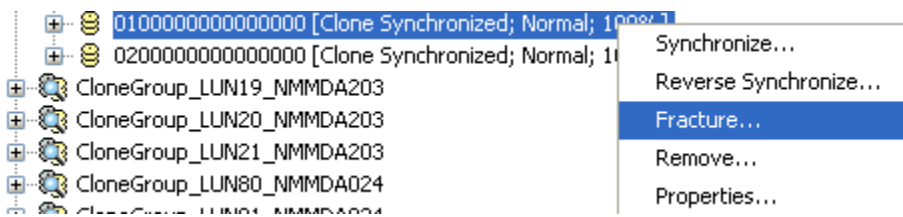

Figure 18 – Clone Fracture
1. Right click on the Clone Group and select fracture; see Figure 18.